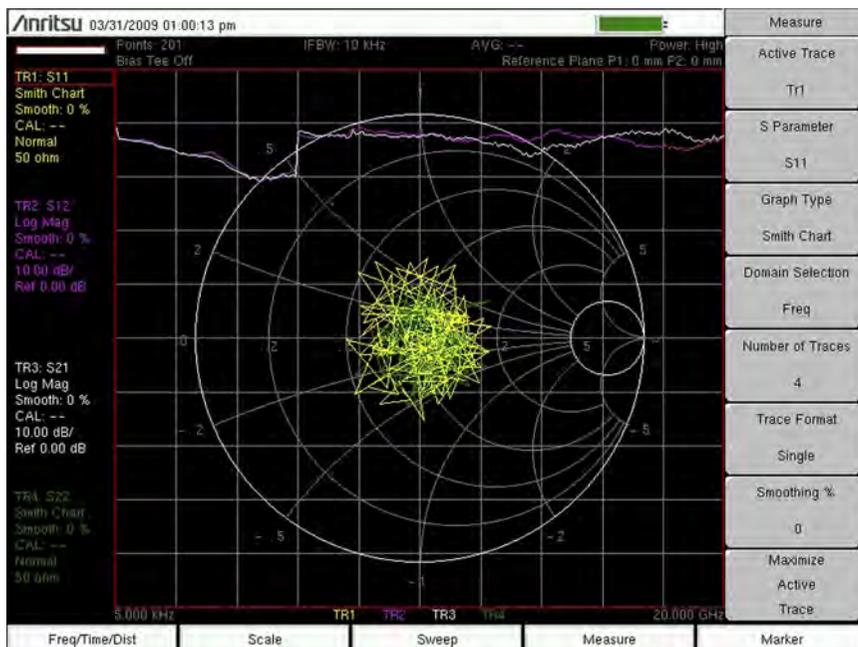

Figure 3-2. Format = Single, Traces = 4
2. Beginning with the default view, set Trace Format = Single. Notice how all 4 traces are overlaid on a single graph. Refer to Figure 3-2 on page 3-4.